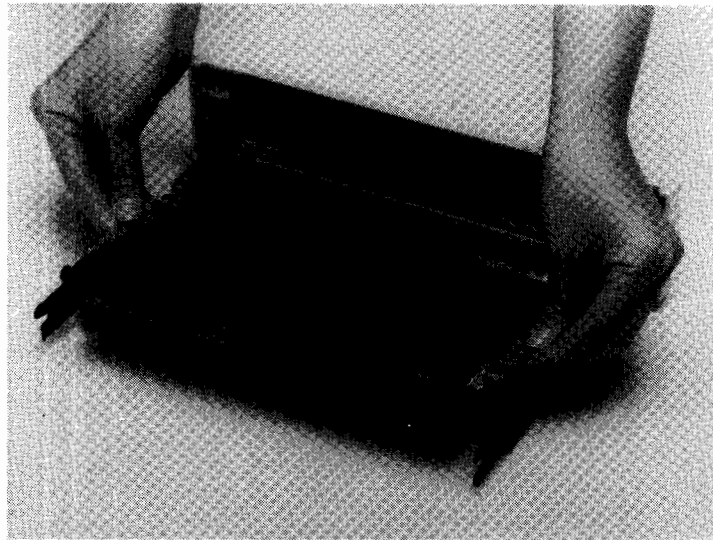

Figure 4-20. Removing OPC Belt Cassette
- e. Using only your fingers, lift and remove the OPC belt cassette from the development unit by holding the green handles located on both sides of the cassette (figure 4-20).